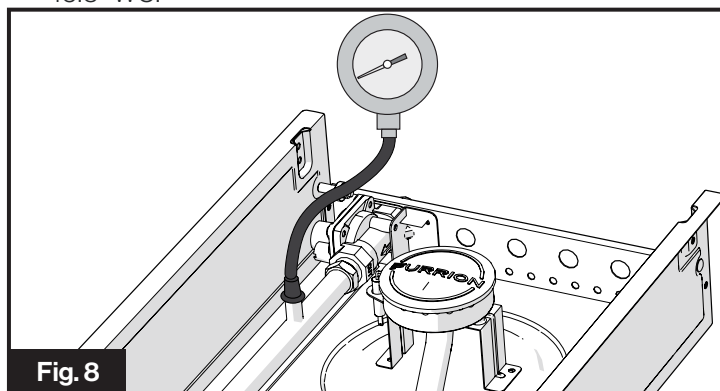

Fig. 8
3. Using the rubber tube from the pressure check measuring device, slide the rubber tube down over the gas pressure test port. The rubber tube should seal around the pressure test port on the range.(Fig.8)